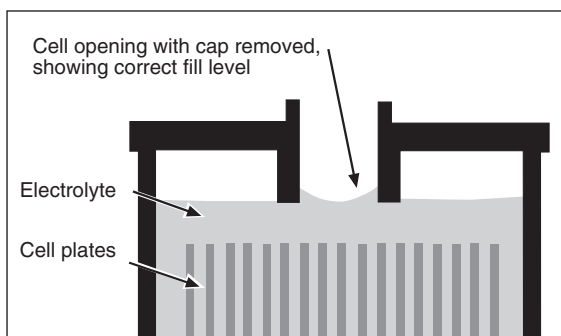

Fig. 5-4. Correct battery cell fill level.
- ▶ Don't overfill wet-cell batteries. The excess electrolyte will boil out as the battery charges, leaving an acid film all over the battery and everything in the surrounding area. Figure 5-4 shows the proper level to which each cell should be filled. When the level is correct and you look down into the cell, you should see a fish-eye staring back at you.